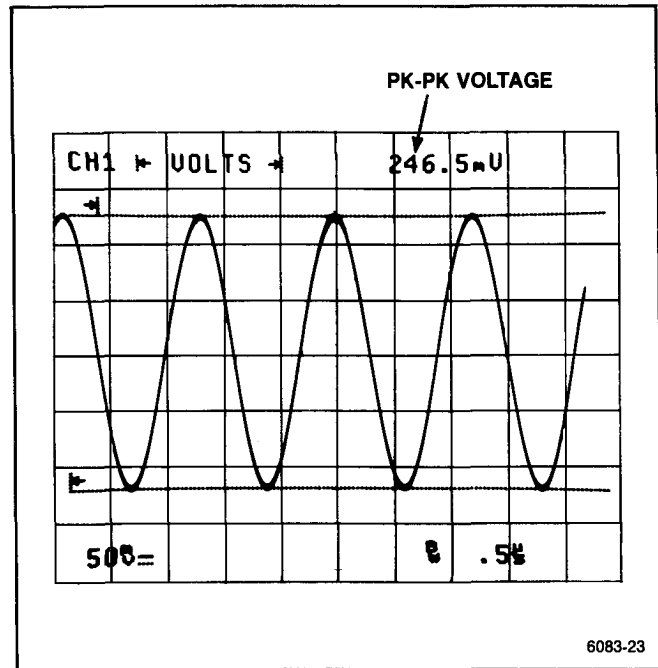

Figure 6-9. Voltage difference measurement using cursors.
2. Press the CURSORS button to display the measurement selection menu and select the |← VOLTS →| cursors. The Voltage cursors are initialized to the peak-to-peak levels of the lowest numbered displayed channel of either CH 1 or CH 2 (see Figure 6-9).